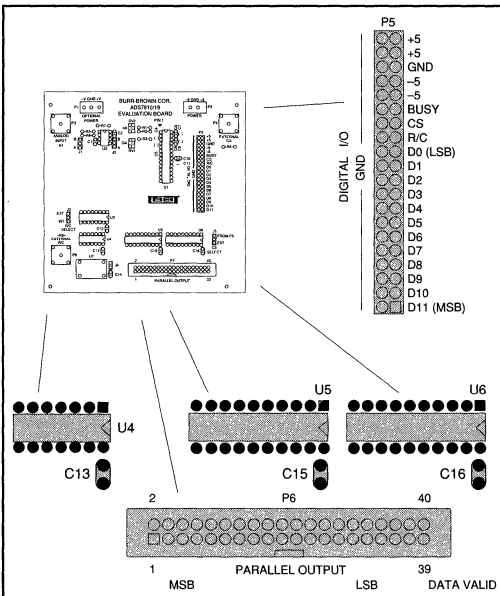

FIGURE 10. Factory Settings for Step 5.
A) P5 outputs full parallel data — See Figure 10.
B) P6 outputs buffered full parallel data—See Figure 10.